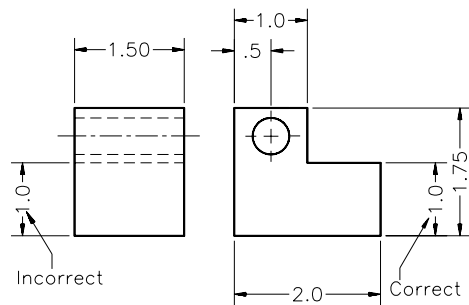

Figure 22-35 Do not dimension with hidden lines
9. You should not dimension the hidden lines. The dimension should be given where the feature is visible (Figure 22-35). However, in some complicated drawings, you might be justified to dimension a detail with a hidden line.